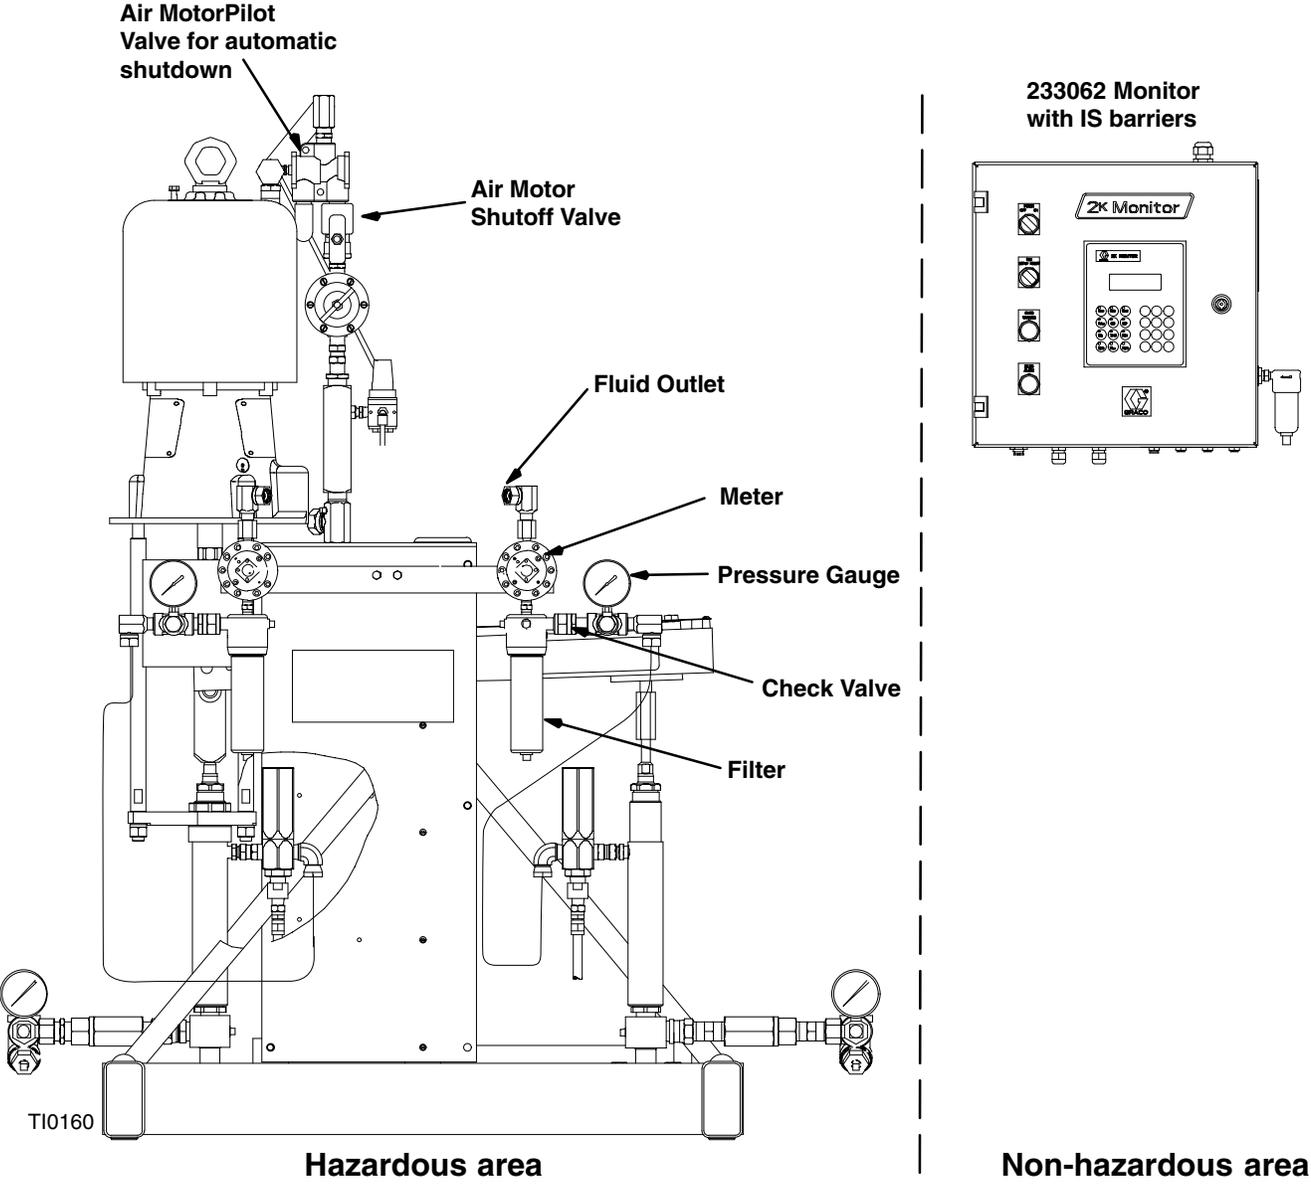

Fig. 2
- To install an intrinsically safe flow meter in a hazardous area and the 2K Monitor in a non-hazardous area, refer to Fig. 2, page 6.
Refer to Fig. 1 or Fig. 2 to locate and install the flow meters, connectors, and a Variable Ratio Hydra-Cat proportioner.